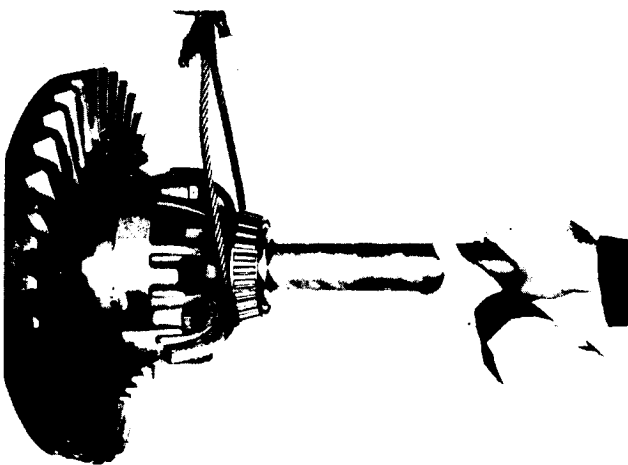

FIG. 118
12. After torquing bolts, insert axle shaft into differential so that it engages side gear and check for backlash between clutch teeth of NoSPIN differential (Fig. 118). A backlash of approximately 5/32 inch must be present. If proper backlash does not exist, disassemble differential case halves and recheck for correct assembly. After reassembly, torque case bolts and lockwire bolts in pairs as shown in Fig. 106.